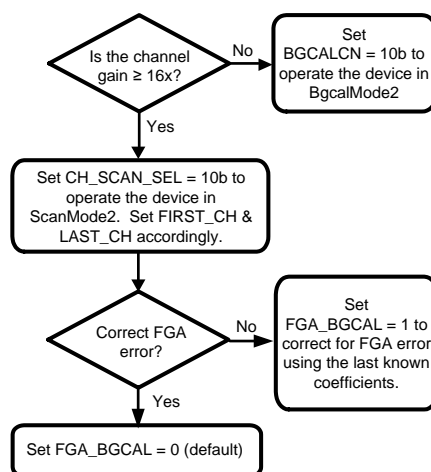

Figure 41. BgcalMode2 Register Settings
3. BgcalMode2: Offset Correction / Gain Correction. Follow Figure 41 to set other appropriate registers when using this mode.